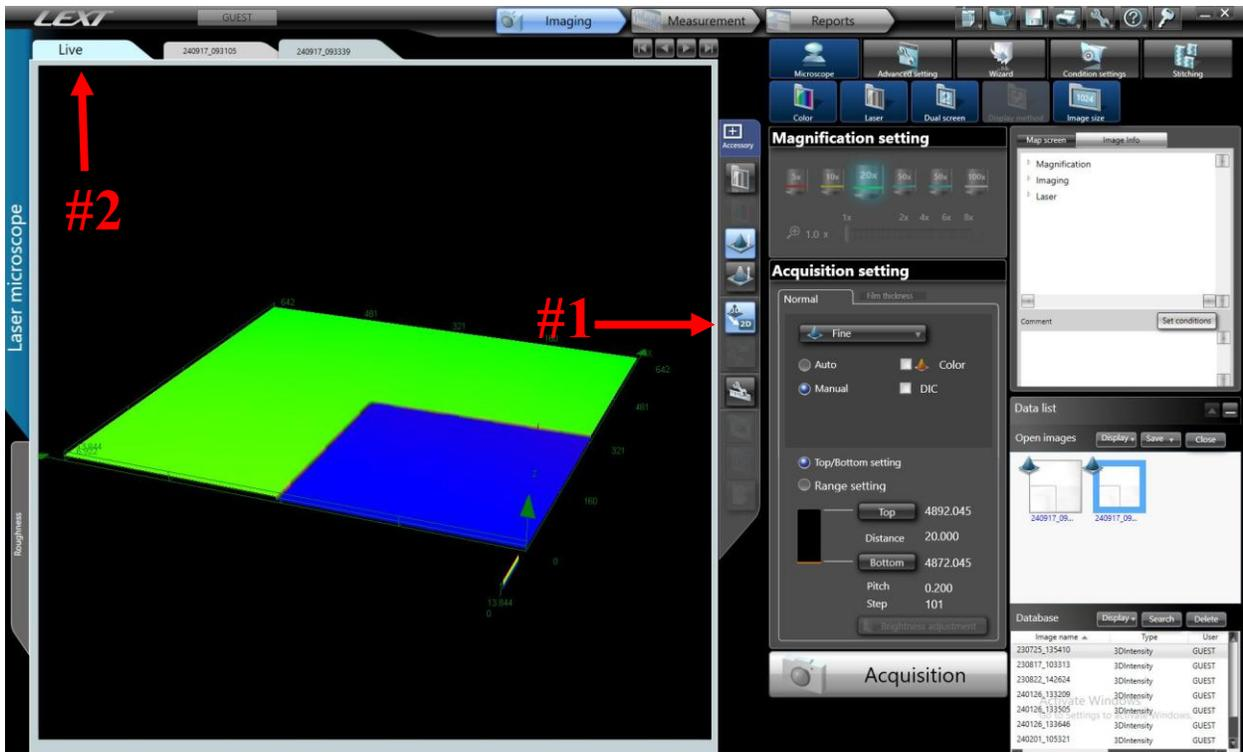

Figure 16. 2D-3D Imaging (#1) and Live Imaging (#2)
15. Once the acquisition is complete, you can switch between 2D and 3D views using the icon shown in Figure 16 (#1).
16. If you want to capture additional images, return to the live image by clicking "Live," as shown in Figure 16 (#2).